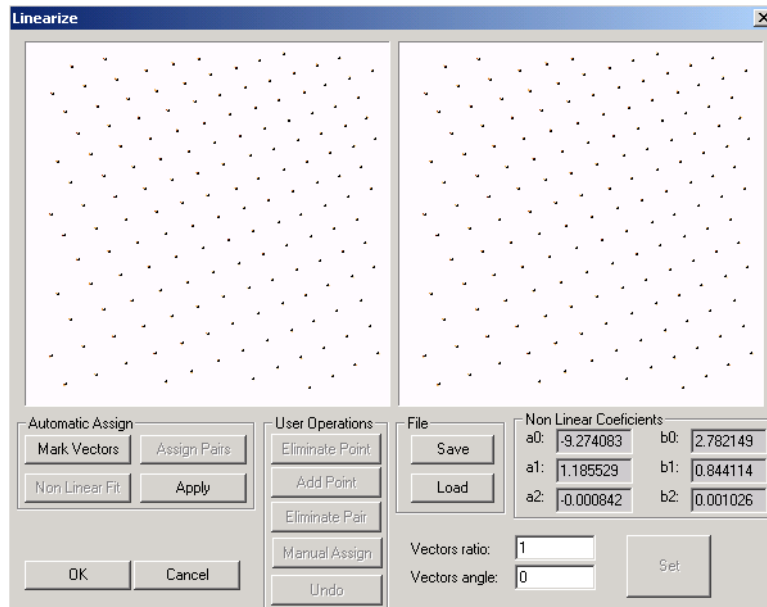

Figure 3
2. With this image selected, press the button  or select Process ⇒ Linearize... in the Menu. A new dialog box will be opened (Figure 3).